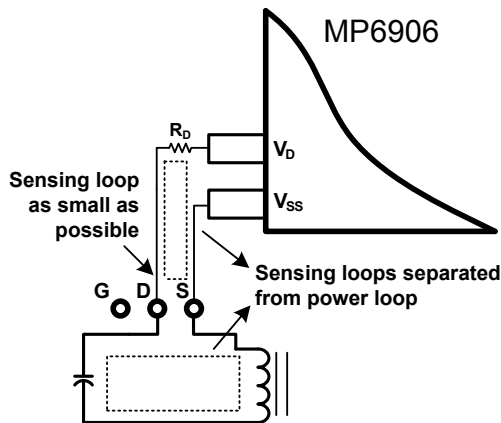
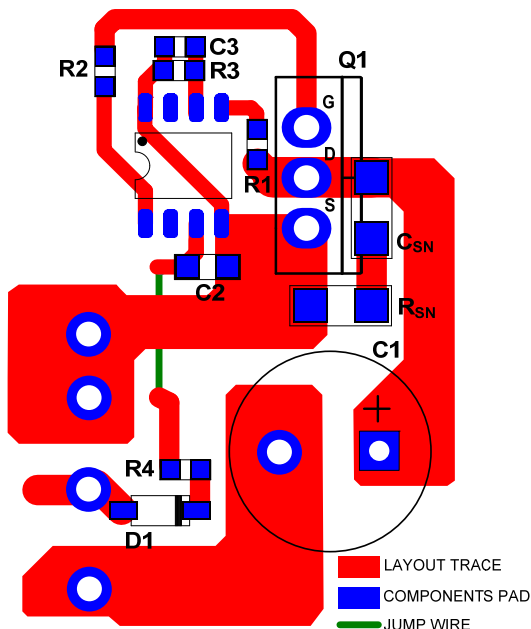
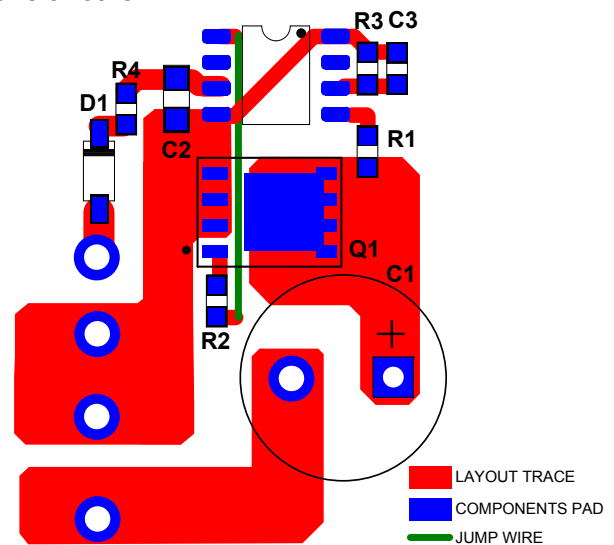

Figure 17: Voltage Sensing for V_D/V_{SS} on MP690
Figure 18: Layout Example with TO220 package SR FET
Figure 19: Layout Example with PowerPAK/SO8 Package SR FET
Efficient PCB layout is critical for optimal operation. For best results, refer to Figure 17, Figure 18, and Figure 19 and follow the guidelines below:
- 3.) Keep the IC out of the power loop to make sure the sensing loop and power loop do not interrupt each other (see Figure 17).
Figure 18 shows a layout example of a single layer with a through-hole transformer and a TO220 package SR FET . R_{SN} and C_{SN} are the RC snubber network for the SR FET.
Figure19 shows another layout example of a single layer with a PowerPAK/SO8 package SR FET, which also has a minimized sensing loop and power loop to avoid the loops interfering with one another.